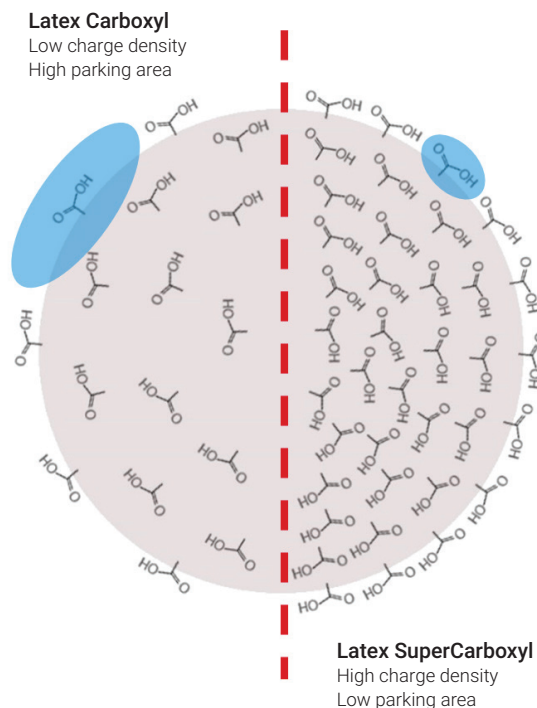

Figure 1. Parking area representation of latex carboxyl and supercarboxyl beads.
Parking area (PA): the space occupied by a single COOH group (see Figure 1).
Surface charge density (SCD): the amount of functional groups present on the surface of the beads (see Figure 1).